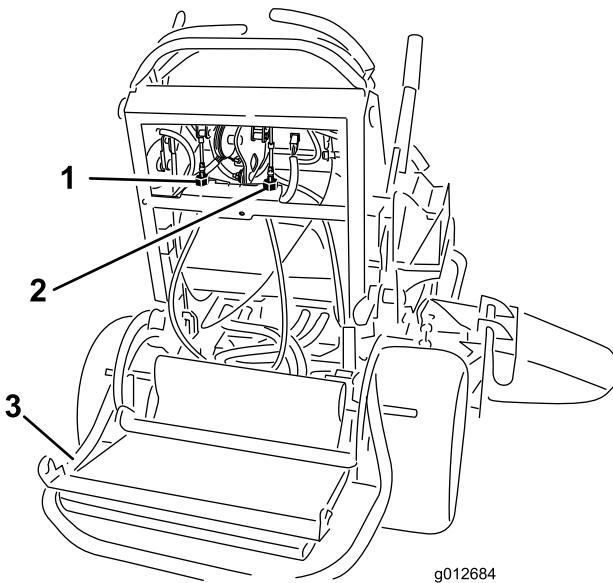

Figure 69
6. Install the cable lock onto the cable-adjusting nuts to secure the adjustment (Figure 69).